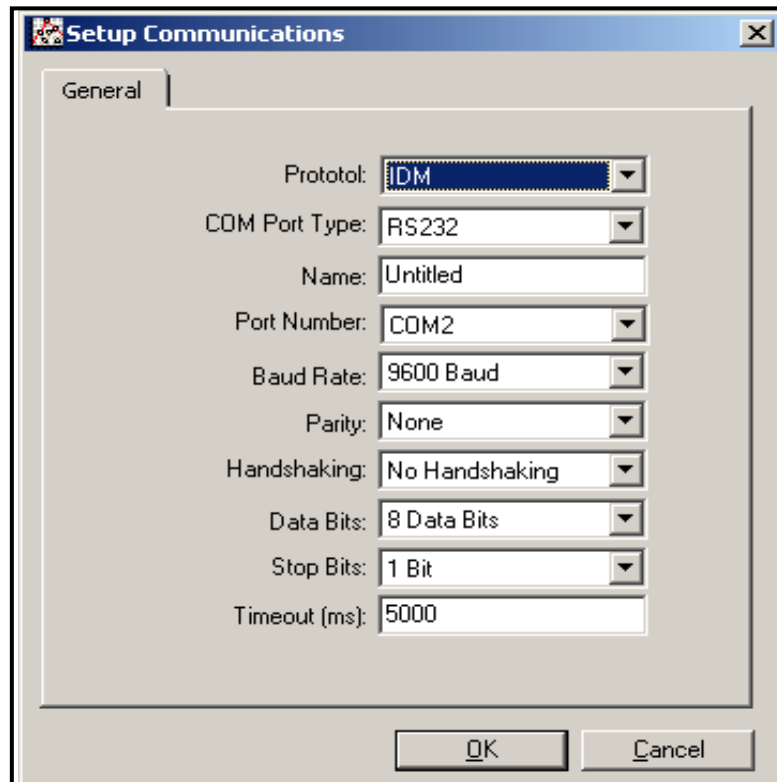

Figure 18: Setup Communications Screen
- Click on the "Communications Port" option to select it. The Setup Communications screen appears similar to Figure 18 below.